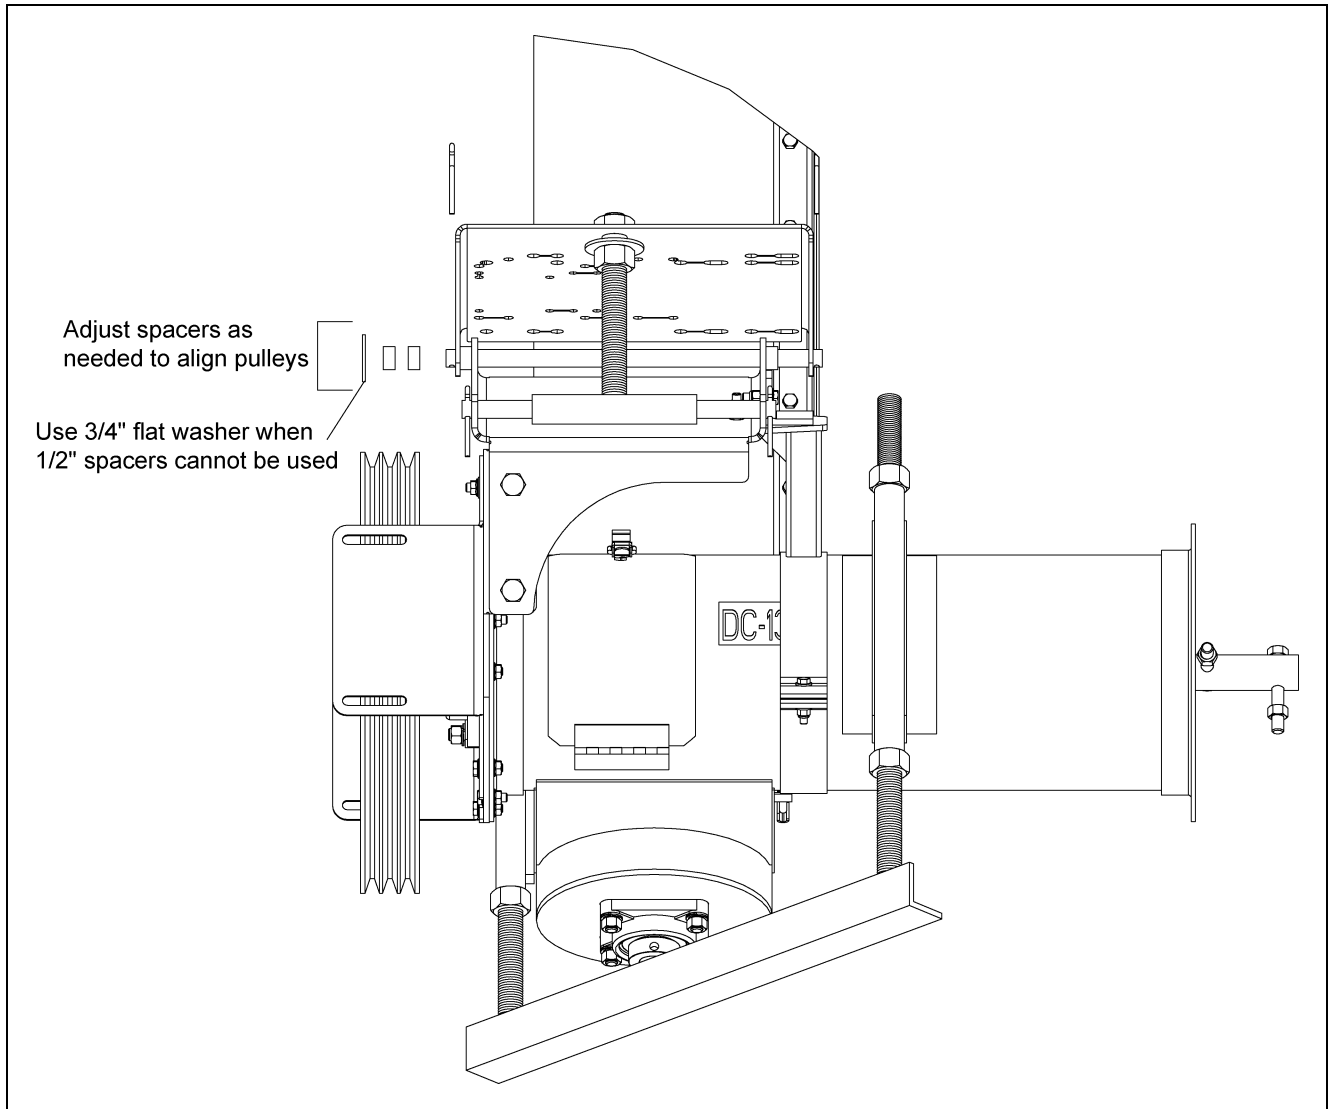

Figure 4U
2. Install the drive pulley onto motor shaft making sure that it is aligned with the flight pulley. It may be necessary to move spacers to gain shaft alignment. Use the 3/4" flat washer where the 1/2" spacers cannot be used. (See Figure 4U.)